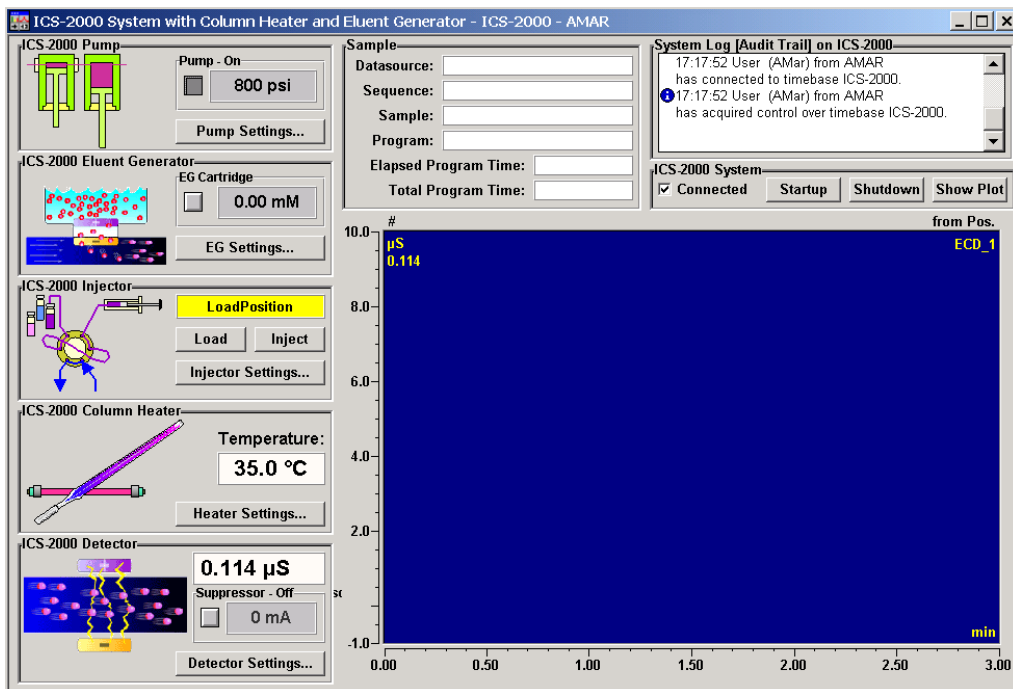

Figure B-103. ICS-2000 System Control Panel Example
- Double-click the .pan file to open the Control panel for your system (see the example in Figure B-103).